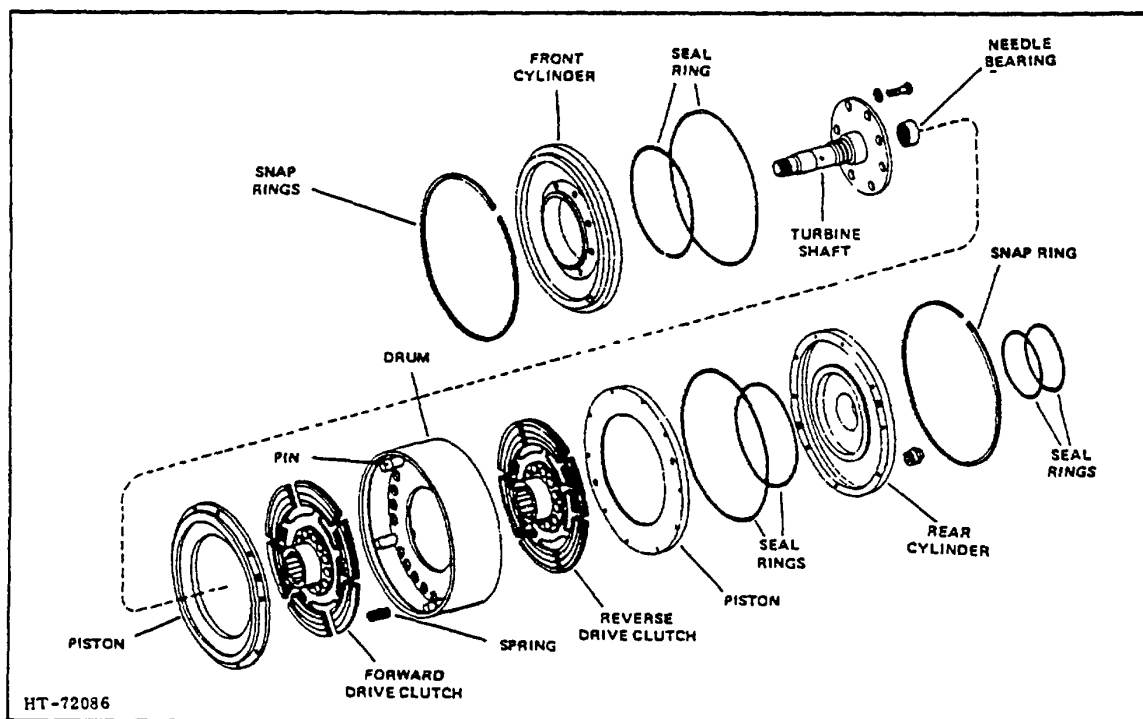

Figure 3-1. Drum Assembly
1. Place the drum assembly in an arbor press. Then apply pressure on the turbine shaft until the cylinder is depressed enough to remove the large snap ring from the drum (Figure 3-1).
ring holding cylinder and assembled parts in place. (See Figure 3-1.)